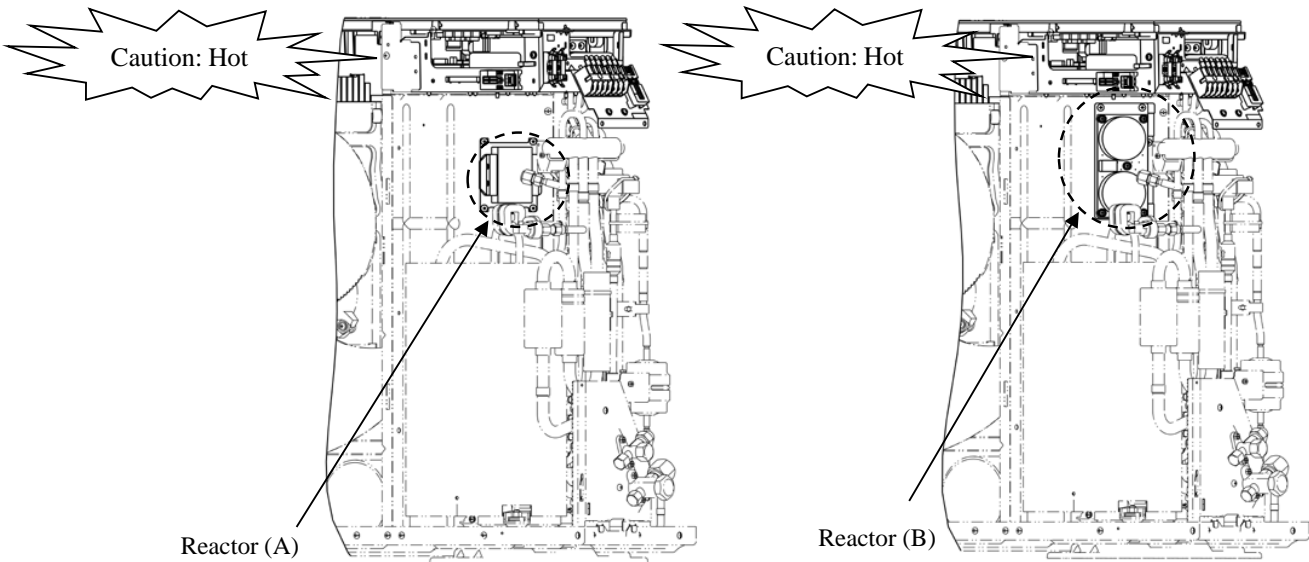

Fig.5 Location of reactor and reactor type
- 3) Open the service panel and check the reactor as shown in Fig.5.
If the reactor shown in Fig.5 is (A) . . . Please go to clause 4.
If the reactor shown in Fig.5 is (B) . . . Please go to clause 6.